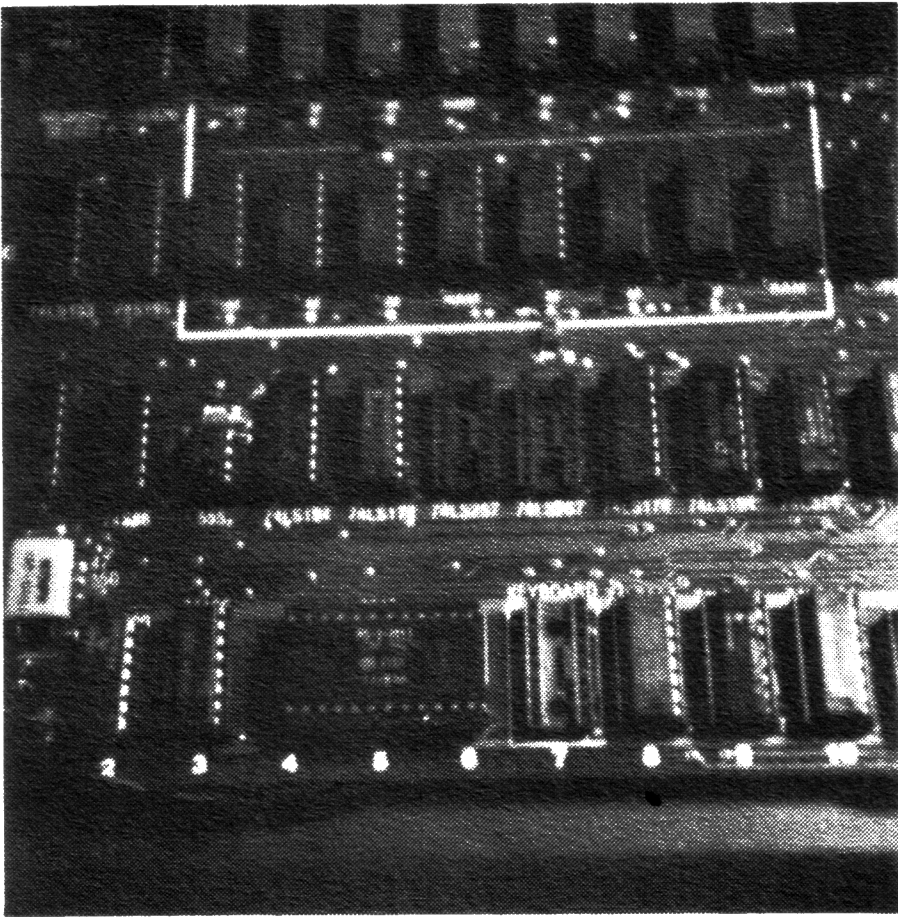
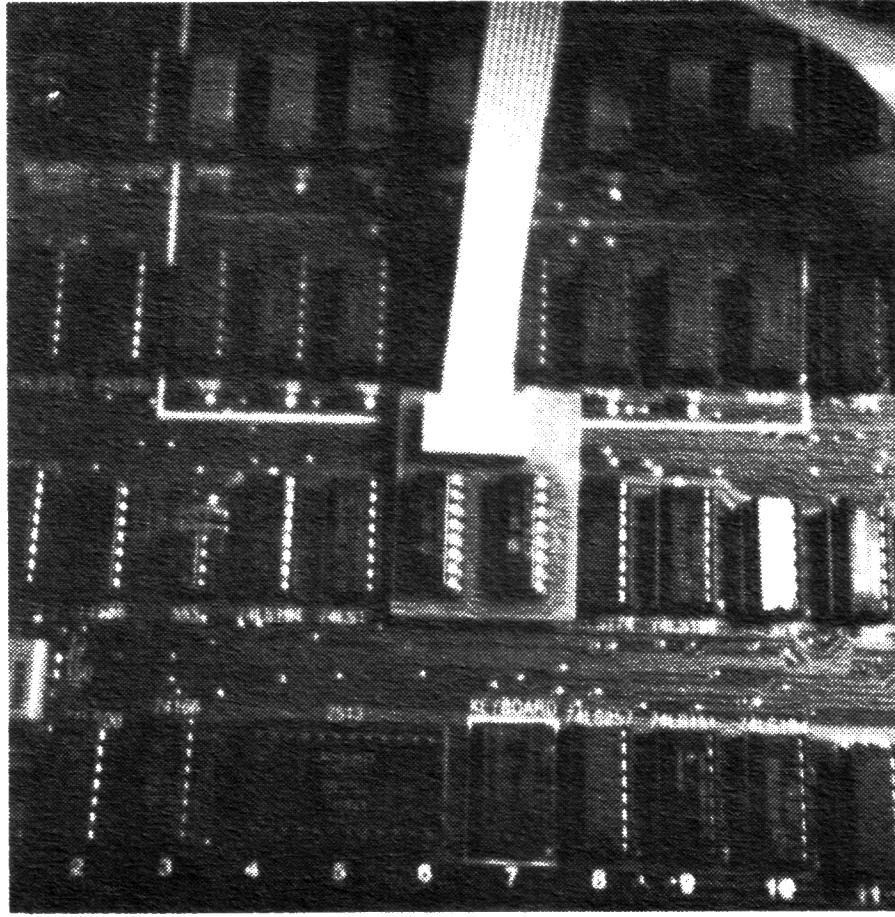

FIGURE 4
FIGURE 5
3. Using an IC extractor remove the two 74LS257 ICs located at B-6 and B-7. These positions are shown in Figure 4. Insert the two chip daughterboard into the Apple II motherboard as shown in Figure 5. Repeat the seating procedure described in step. The two 74LS257s removed from positions B-6 and B-7 can now be inserted into the daughterboard.